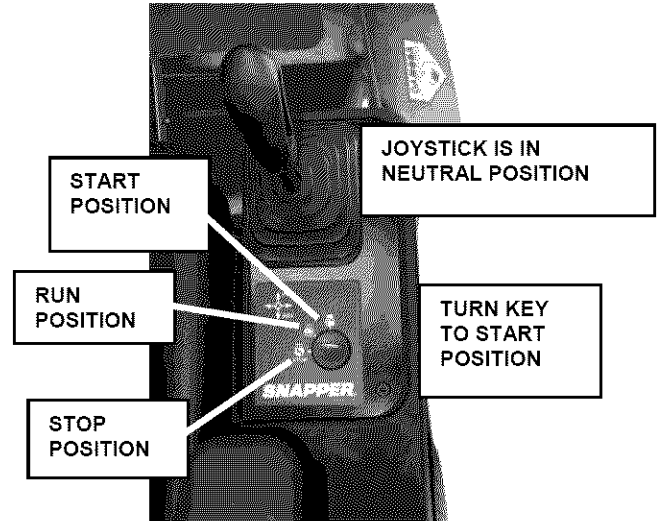

FIGURE 2.5
1. Move joystick lever to (N) Neutral position. See Figure 2.5.
3. Make certain the parking brake is engaged. See Figure 2.5.
6. Turn key to the "START" position until engine starts. See Figure 2.5. **NOTE:** If after 5 seconds of cranking the engine and it does not start, release the key. Attempt starting again after waiting for approximately 20 seconds.